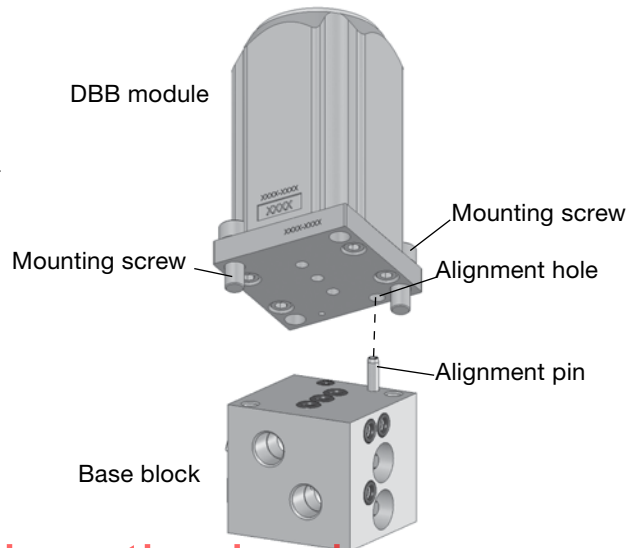

Fig. 4
6. Install a **DBB module** on each **base block** with the **alignment pin** fitting into the alignment hole on the DBB module. Using two **mounting screws** (#10-32 x 1/2 in. with standard 5/32 in. hex drive) tighten the DBB module to the base block to 25 to 35 in.-lb (2.8 to 4.0 N·m). See Fig. 4.